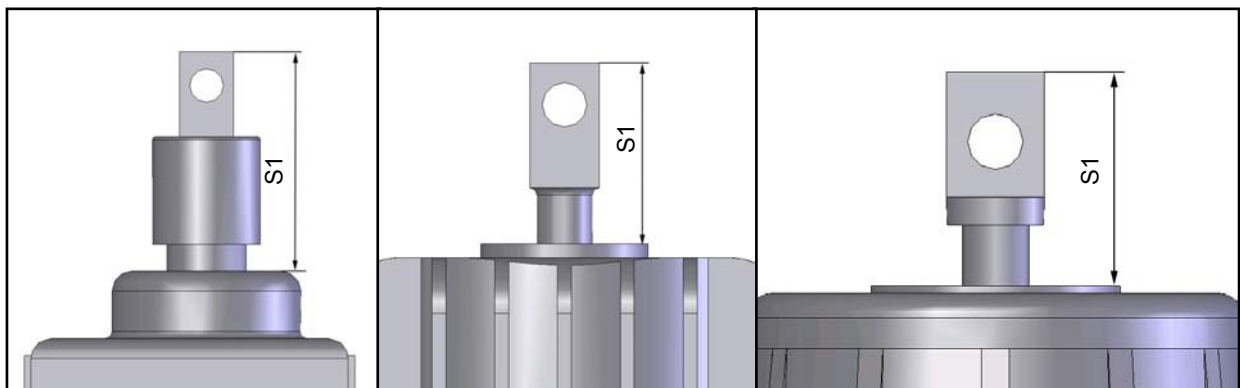

Fig. 4: piston rods of the different ELDRO-thrusters
- Measure S1 (Fig. 4) with brake closed.
- Turn Nut (2.14) **clockwise** until the piston rod of the thruster (Fig. 4) has reached the necessary value for S1 (table 1).
- Turn Nut (2.14) **counterclockwise** until the piston rod of the thruster (Fig. 4) has reached the necessary value for S1 (table 1).